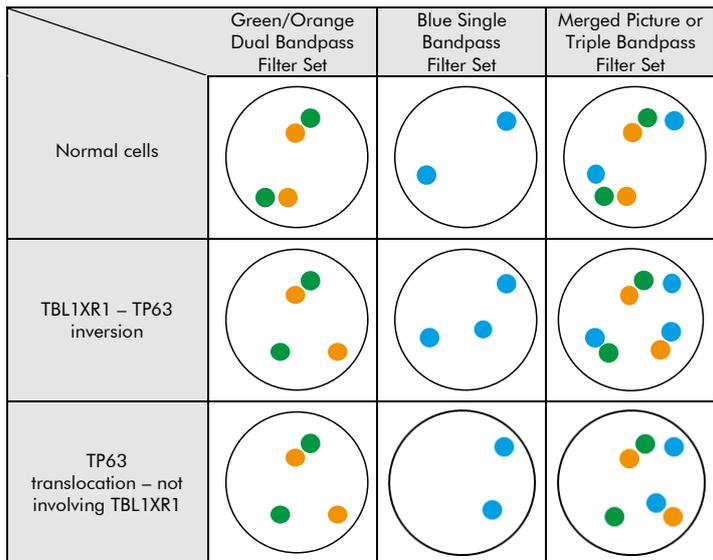

Fig. 2: Expected results in normal and aberrant nuclei
**Normal situation:** In interphases of normal cells without rearrangement of the TBL1XR1-TP63 gene region, two orange/green fusion signals and two blue signals appear (see Fig. 2).
**Aberrant situation:** A TBL1XR1-TP63 inversion is indicated by one separate green signal, one separate orange signal, and an additional blue signal. The separate green and orange signal each co-localize with a blue signal. A TP63 translocation not affecting TBL1XR1 is indicated by separated orange and green signals without an additional blue signal (see Fig. 2).